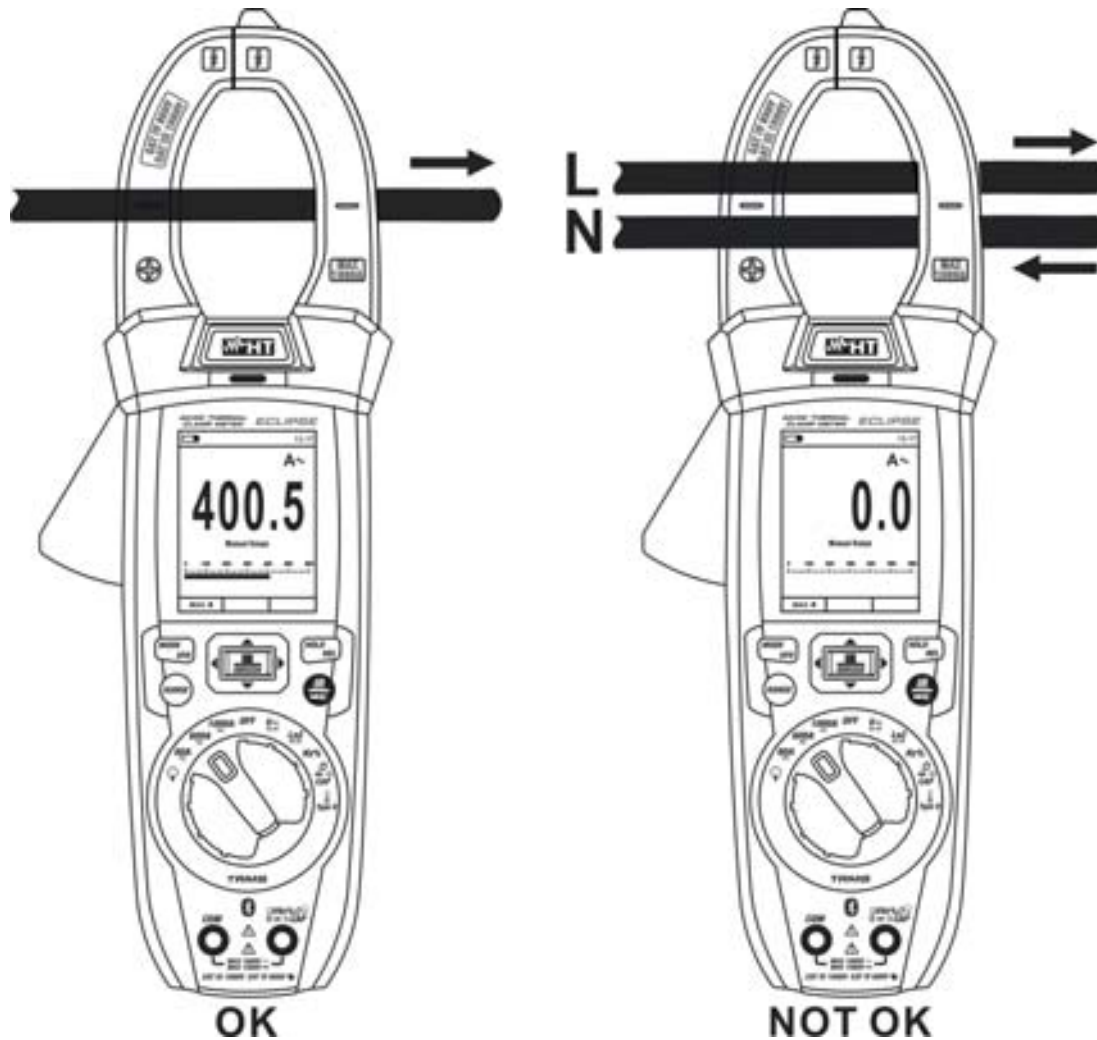

Fig. 32: Use of the instrument for AC current measurement
3. Put the conductor to be tested inside to the center of clamp jaw (see Fig. 32) in order to perform accurate measurements. Consider the notches on jaws as reference (see Fig. 3)